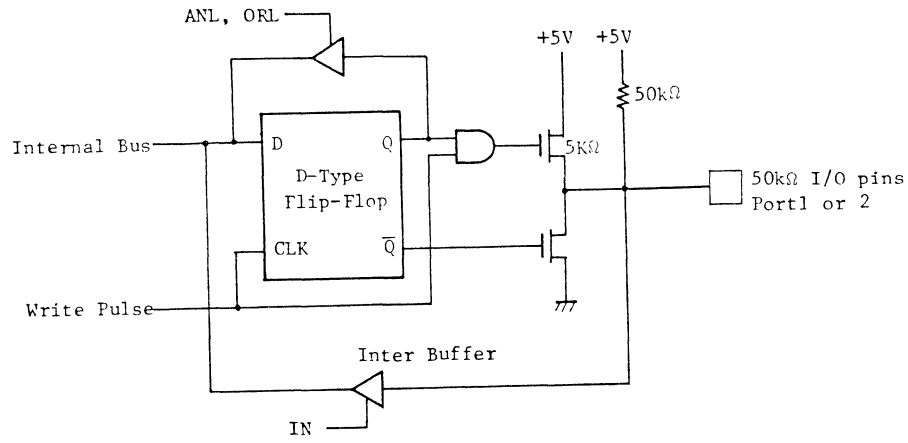

Fig.1 Input/Output Circuit of Port 1, Port 2
- . All lines of Ports 1 and 2 are called quasi-bidirectional because of a special output circuit structure (illustrated in Figure 1). Each line is continuously pulled to a +5V level through a high impedance resistive device (50kΩ) which is sufficient to provide the source current for a TTL high level yet can be pulled low by a standard TTL gate thus allowing the same pin to be used for both input and output. In order to speed up the "0" to "1" transition a low impedance device (5kΩ) is switched in momentarily whenever a "1" is written to line. When a "0" is written to line a low impedance device overcomes the pullup and provides TTL current sinking capability.